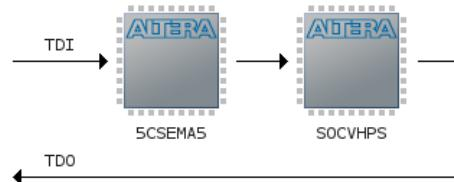

Figure 8-18. JTAG Scan Chain
You should now see 2 devices on the JTAG scan chain, as shown in Figure 8-18.
38. Right-click on the “5CSEMA5” device shown in Figure 8-18 and choose “Edit > Change File”. Then, select “DE1\_SoC\_demo/RTL/quartus/output\_files/DE1\_SoC\_demo.sof” through the file browser.